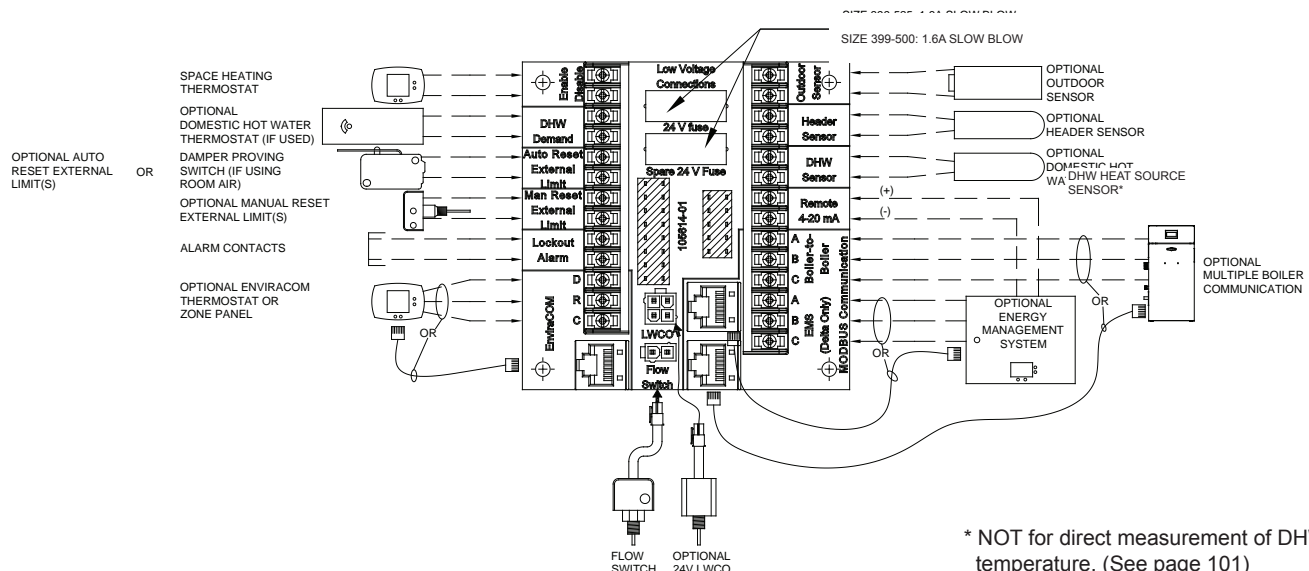

Figure 39: Low Voltage Field Wiring
3. **24VAC low voltage connections** are located on left side of right PCB and are shown in Figure 39. One 24V fuse and spare are provided. PHNTM399C and PHNTM500C use 1.6A slow-blow fuse. PHNTM600C, PHNTM700C and PHNTM800C use 2.0A fast-acting fuse.